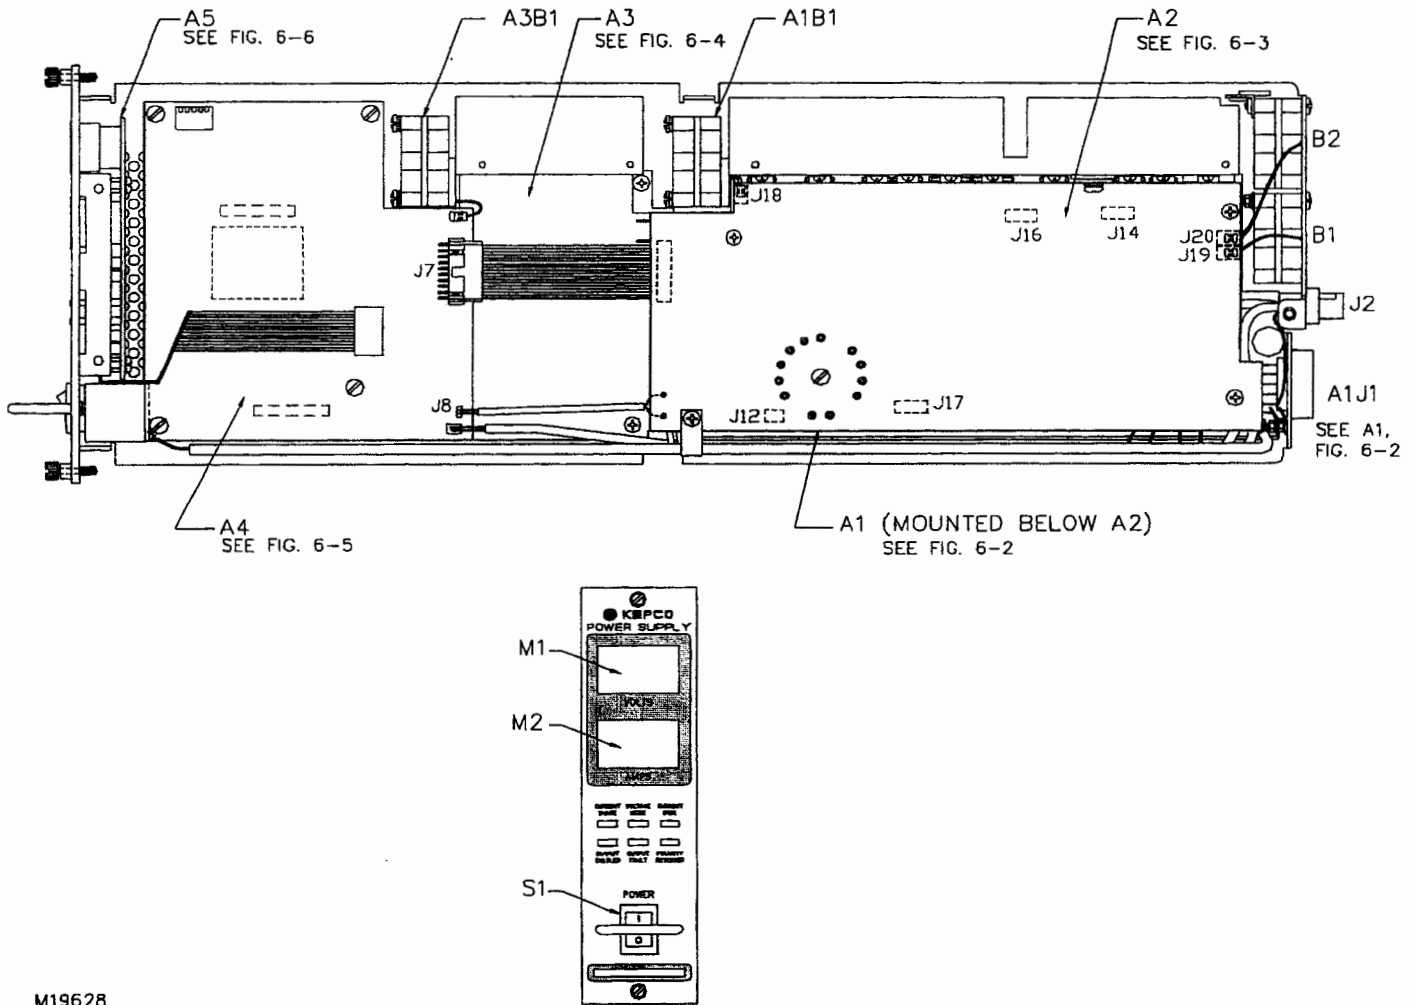

FIGURE 6-1. MST SERIES POWER MODULE, COMPONENT LOCATIONS
CHASSIS ASSEMBLY (Figure 6-1)
**KEPCO****REPLACEMENT PARTS LIST****MST SERIES****CHASSIS ASSEMBLY (Figure 6-1)****CODE: MST6TOP**